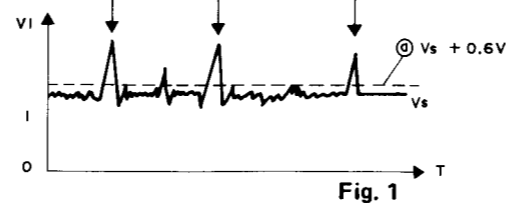

Fig. 1
2) When the arm passes the inter-tune, the incident amount of light is increased, but the time constant T is smaller than R169 · C229, so the waveform as V₁ shown in Fig. 1 is obtained.